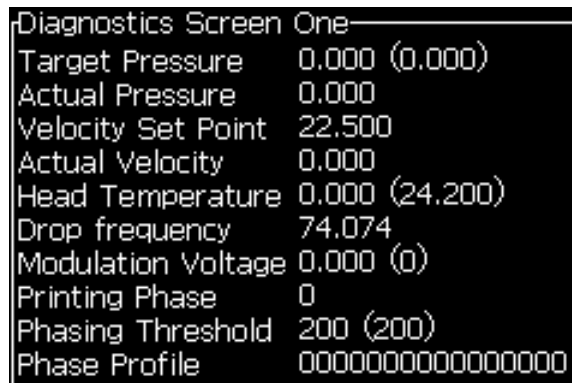

Figure 4-31: Diagnostics Screen One
- 51 Make sure that the printer has reached steady state. Steady state indicates: actual velocity = velocity set point, ± 0.1 m/s (check these parameters on Diagnostics Screen One (Figure 4-31).